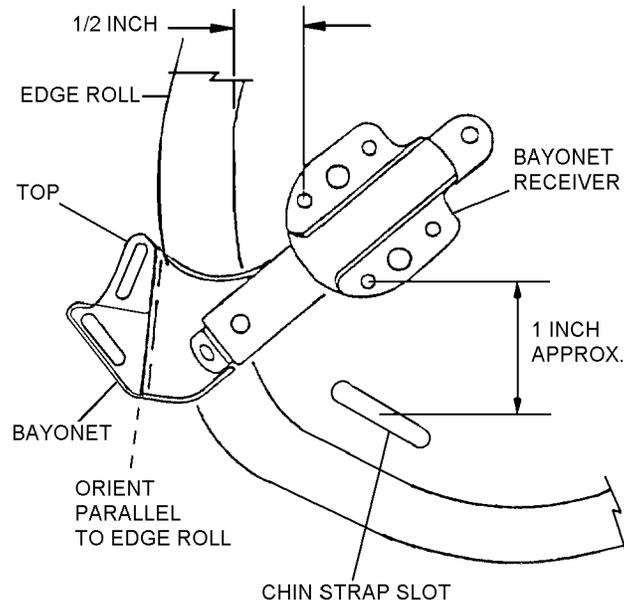

Figure 6-9. Positioning Bayonet Receivers
5. While holding bayonet receivers firmly against the helmet shell assembly, ensure upper edge of bayonet offset is flush with helmet shell assembly edge roll (figure 6-9). Then, trace outline of each bayonet receiver with a lead pencil onto the helmet shell assembly. Do not use marker or grease pencil.